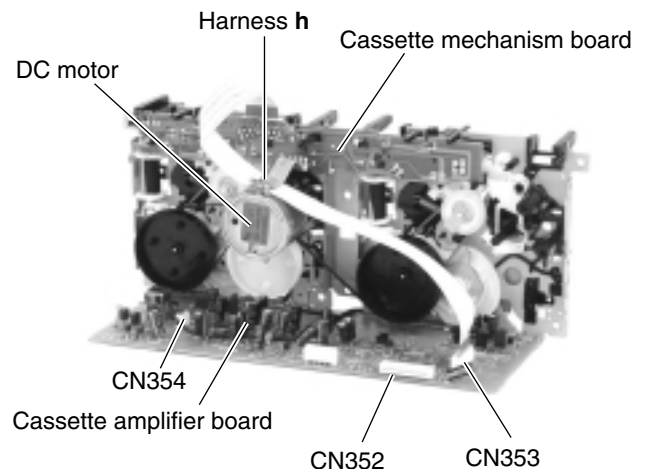

Fig.26
■ Removing the cassette amplifier board (See Fig.26 and 27)
ATTENTION: When reconnecting the card wire, get it pass through under the harness **h** on the DC motor (The Fig.26 shows the details).